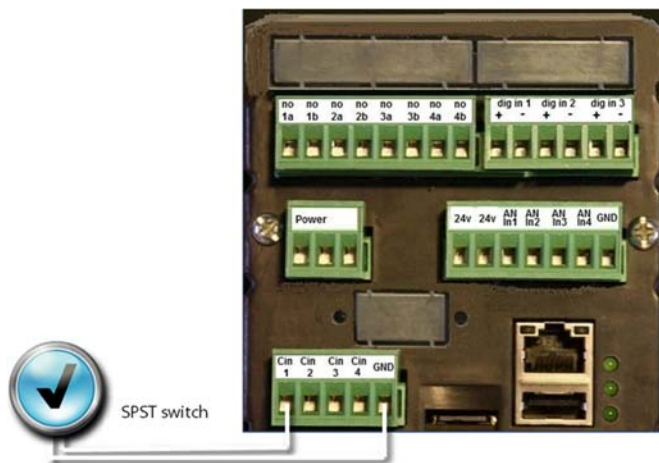

Figure 6-11 - The contact switch connector can be configured with a SPST switch to acknowledge an alarm.
2. The External ACK Control dropdown menu displays choices for 3 digital inputs and 4 contact inputs. This allows a user to acknowledge an alarm by closing a switch. Just wire a SPST switch across one of the contact inputs and the GND connector, as shown in Figure 6-11. The digital (or pulse) inputs provide the same functionality as the contact inputs but will rarely be used this way.
4. Every totalizer needs to be zeroed at any time. This can be done at the front panel or on the web-interface. The **External Zero Control** offers the capability of zeroing the totalizer from an external switch. The switch is a simple SPST that connects to one of the four contact inputs, as shown in Figure 6-11. You will rarely want to use a digital input to reset the totalizer.